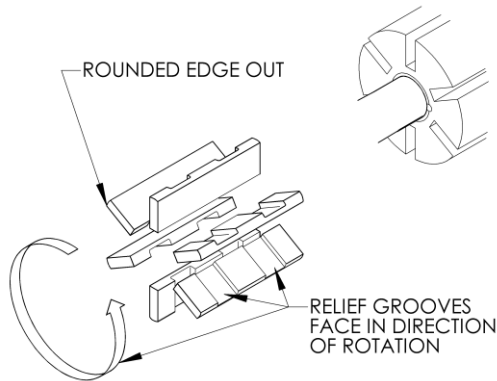

Figure 4 - Vane Installation
2. For replacement of the vanes ONLY, remove the outboard head(23) by removing capscrews (21).
3. Turn the power end shaft (53) by hand until a vane (14) comes to the top (12 o'clock) position of the rotor. Remove the vane.
4. Install a new vane, ensuring that the rounded edge is UP (facing outward) and that the relief grooves are facing TOWARDS the direction of rotation. See Figure 4.
- b. Insert new vanes (14) into the rotor slots with the rounded edges outward, and the vane relief grooves facing TOWARDS the direction of rotation. Refer to Figure 4 If necessary, move the push rods with a small screwdriver to install the vanes.